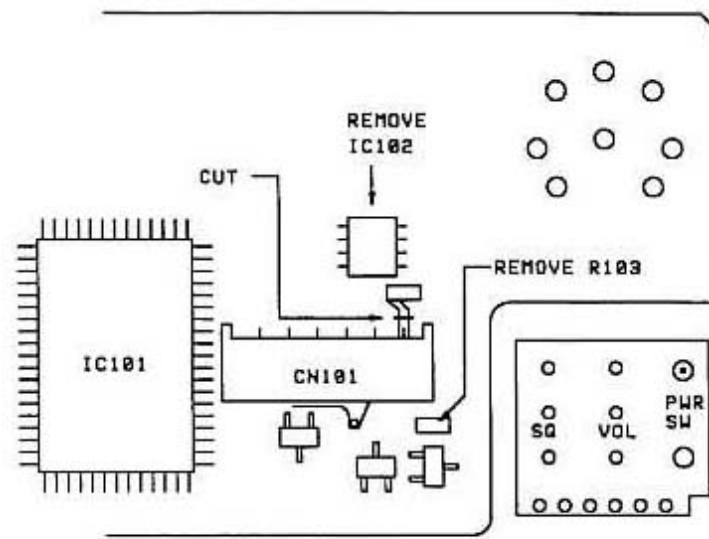

FIGURE 6
13. Remove IC102 from the Control board. Since this device is glued to the board, use a needle tip tool to lift each pin as you melt the solder. Then pry the chip off the board with a craft knife. Figure 6.
15. Remove chip resistor R103. Do not melt connector CN101. Figure 6.
16. Cut the foil pattern between connector CN101 and chip capacitor C102. Make the cut as close to connector CN101 as possible. Figure 6.